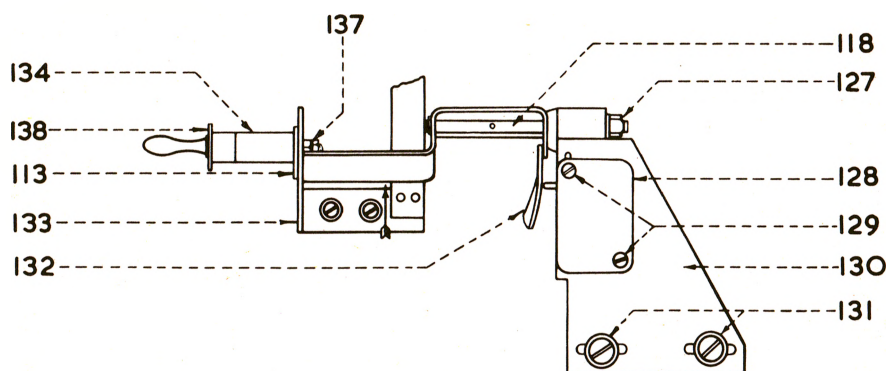

FIG. 15
- 31.3 Check that the following forces, applied at and in the direction of the arrow, are needed to lift the tape arm (113), Fig. 15, from the stop bracket (133):-